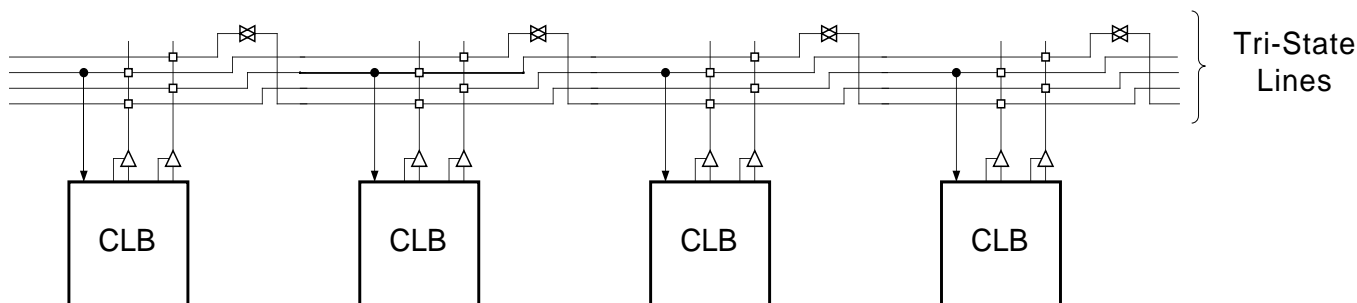

Figure 7: BUFT Connections to Dedicated Horizontal Bus Lines
- Horizontal routing resources are provided for on-chip 3-state busses. Four partitionable bus lines are provided per CLB row, permitting multiple busses within a row, as shown in Figure 7.